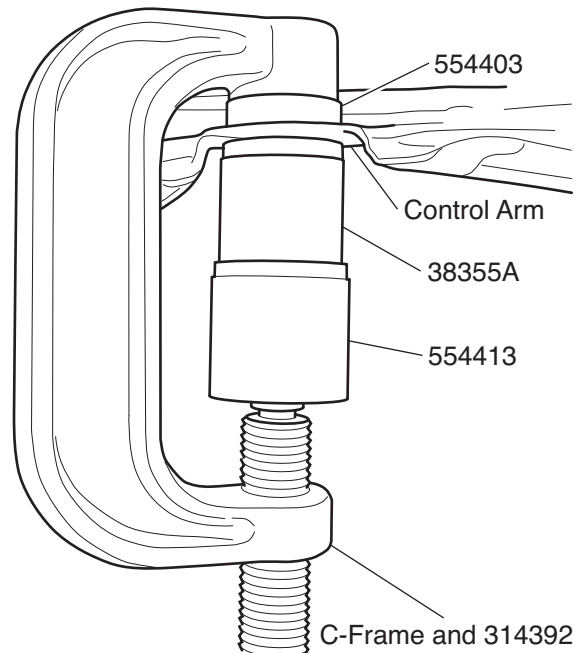

Figure 2. Ball Joint Installation
3. Position 38355A, slide 554413 over 38355A on the ball joint as shown in Figure 2.